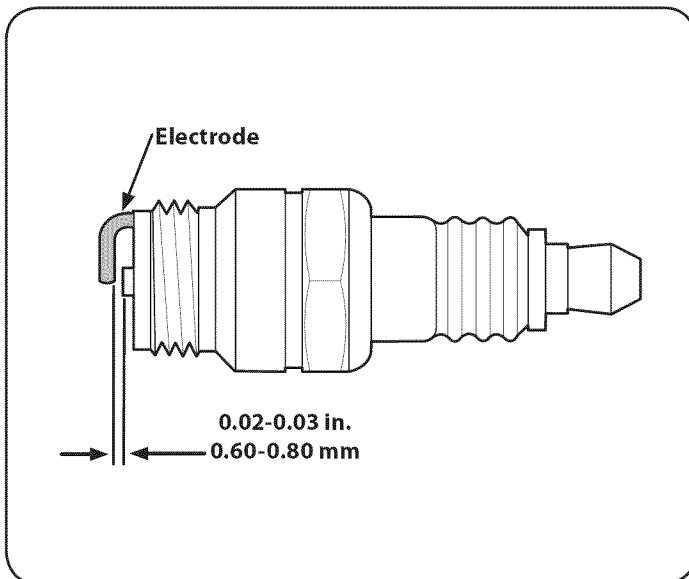

Figure 23
3. Measure the plug gap with a feeler gauge. Correct as necessary by bending side electrode. See Figure 23. The gap should be set to 0.030 in.